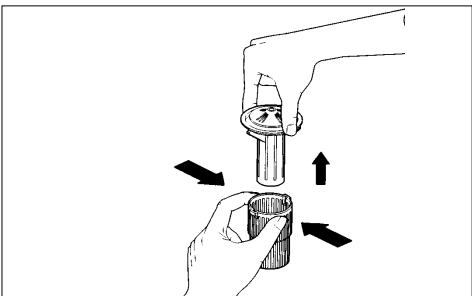

fig 12b
- Remove the sieve (E) by squeezing the filter housing (see Fig. 12b). At the same time, lift the sieve out vertically.
- Before taking out the coarse plastic filter (A), first remove the lower spraying arm.
- Unscrew the housing (B) and remove the coarse filter (A).